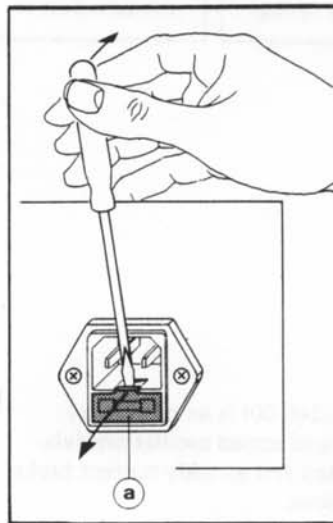

Fig. 3.1
To exchange the primary fuse, the insert ① containing the primary fuse ② and the replacement fuse ③ is taken out using a screw-driver or another suitable tool, as indicated in Fig. 3.1.